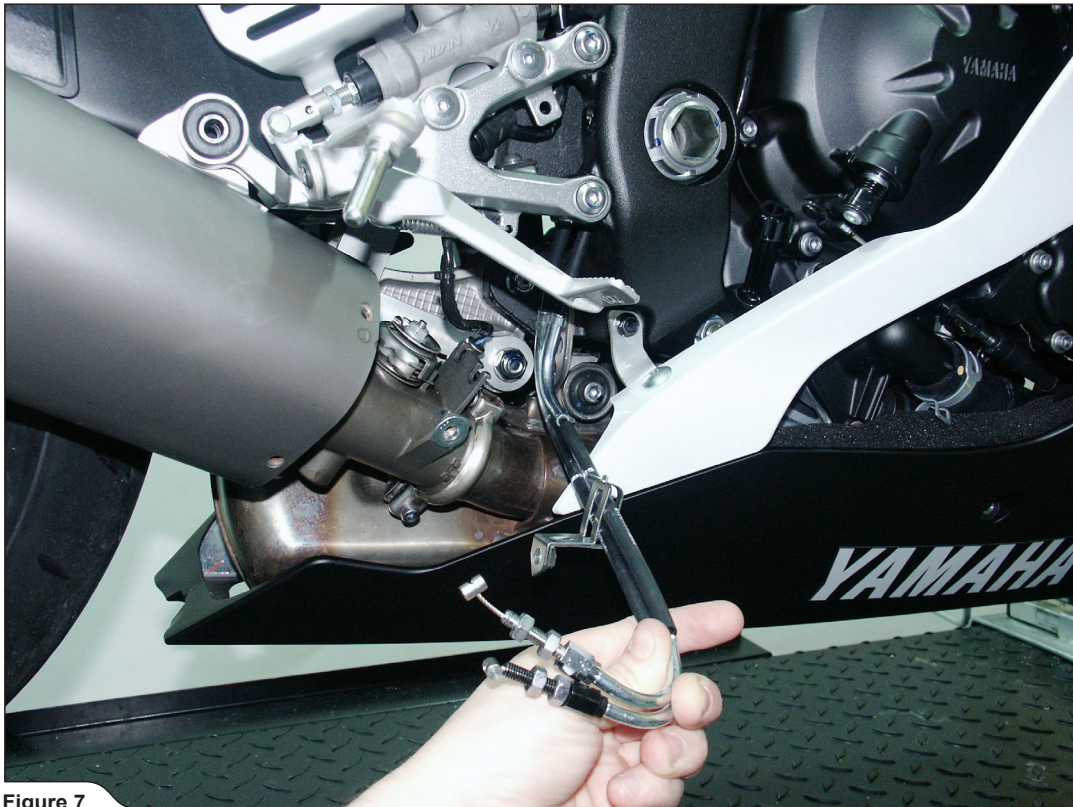

Figure 7
5. For Slip-On Open and Slip-On Megaphone only: unscrew the exhaust valve servo motor, remove the cables off the servo wheel and tighten the servo back on (Figure 4, 5, 6). Remove the exhaust valve cables off the motorcycle (Figure 7).